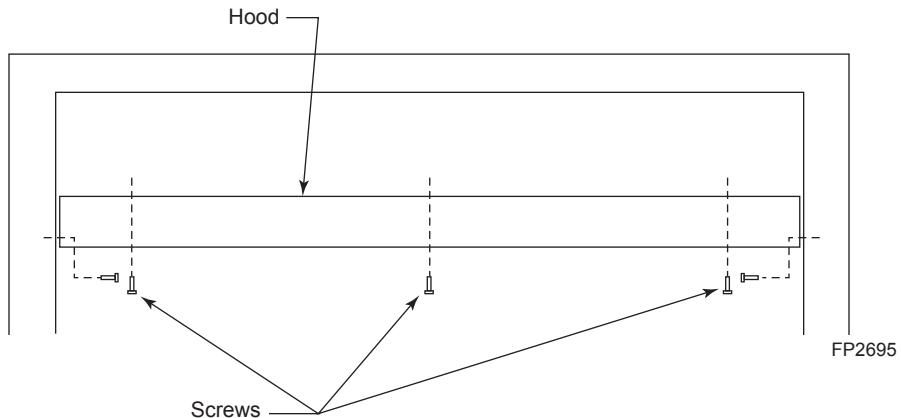

Figure 11 -
A canopy is furnished with each firebox and **MUST** be installed for safe operation. *Figure 11*
1. Remove the three (3) screws from the top front frame assembly. Also remove the two (2) screws on the side frames. *Figure 11*